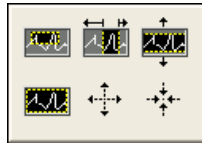

Figure 7.21
- (b) Select Zoom by X Rectangle, as shown in Figure 7.21.